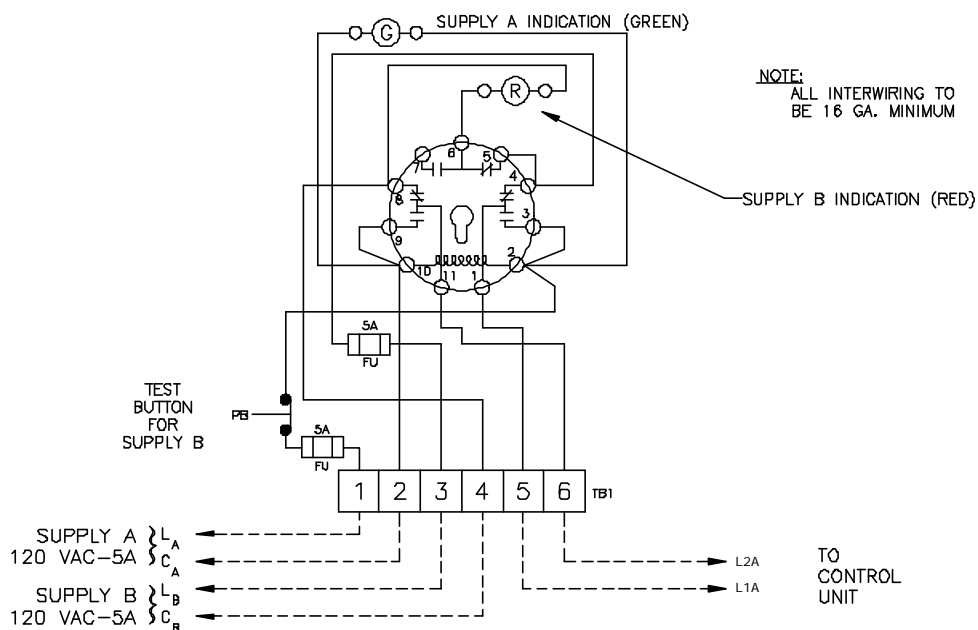

Fig. 1 - Power Supply Diverter Interwiring (PSD-120 shown)
Systems furnished with model PSD-120 or PSD-240 Power Supply Diverter are designed to accept two independent power supplies. The primary supply (A) will power the entire system under normal operating conditions. In the event of a power failure, the PSD diverts the power to the secondary supply (B), and continues to power the system. When supply A is restored, the PSD automatically switches back to supply A. A typical installation is illustrated in Fig. 1.